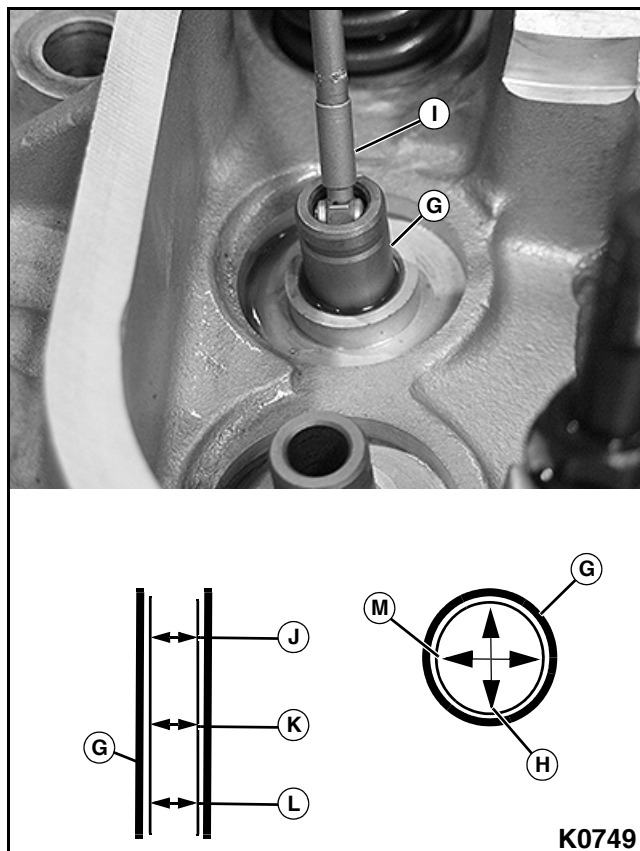

Figure 3-139: Measure the Inside Diameter of the Valve Guide
3. Measure the inside diameter of the valve guide (G) at the top (J), middle (K), and bottom (L) in the first direction (H). **See Figure 3-139.**
4. Measuring in the second direction, rotating 90° (M), measure the top, middle, and bottom of the valve guide.